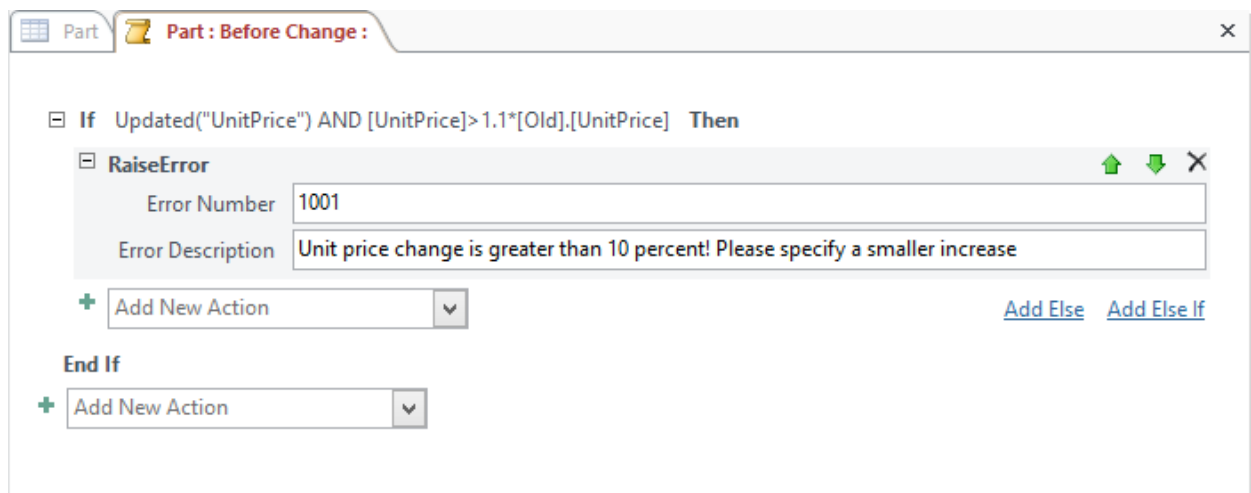

Figure 50: RaiseError Parameter Values Specified
5. Specify the *RaiseError* Action for the True Part of the *If* Action: You can select the *RaiseError* action in the action list or in the Data Actions group of the Action Catalog. Specify the error number and error description parameters as specified in Figure 50. The parameter values have no meaning to Access so you can choose different values if you wish.